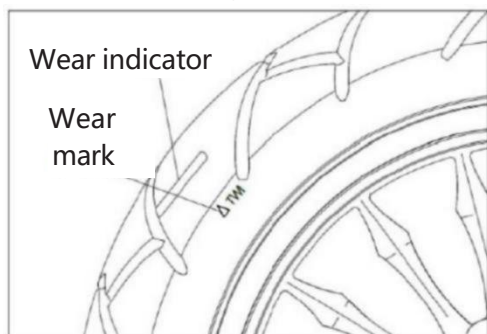

Figure 13 Tire Inspection
2. Tire inspection (Figure 13)